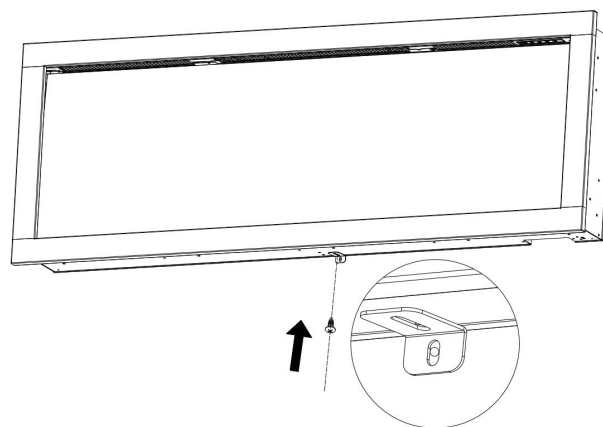

Fig 4-2
B. Using the screw previously removed, attach the L-bracket (supplied) to the bottom of the fireplace box. **(Fig 4-2)**